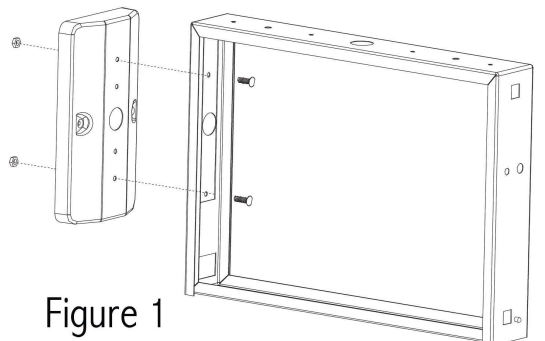

Figure 1
2. Remove the (3) KOs from either the side (for end mount) or top (for ceiling mount) of the fixture that lines up with the same holes on the CANOPY/J-BOX COVER. (Note: For CEILING MOUNT, you must remove the INTERNAL TRANSFORMER COVER on the inside top of the fixture. Please re-insert after installation.)
3. Using the (2) 1/2" long 8-32 screws and lock nuts, attach the canopy to the proper area of the exit sign (as shown in Figure 1).